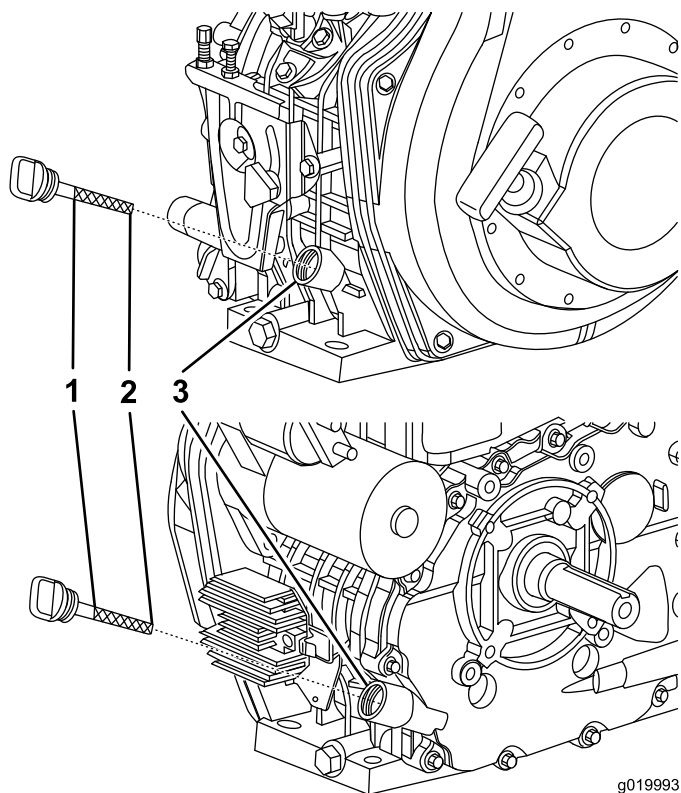

Figure 24
4. Remove the dipstick and wipe the end clean (Figure 24).
5. Slide the dipstick fully into the fill port without threading it into the port (Figure 24).
7. Install and secure the dipstick (Figure 24).